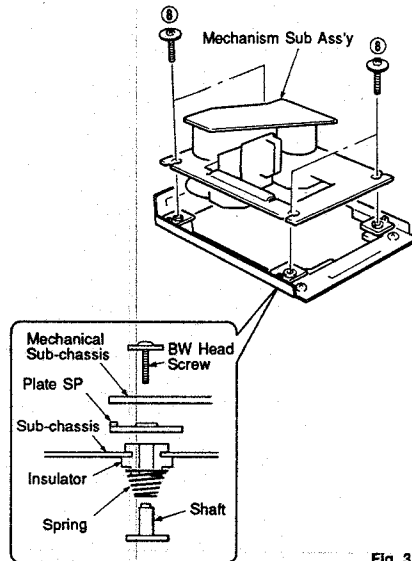

Fig. 3
- d. Remove the Mechanism Sub Ass'y by removing 4 screws (⑧) in Fig. 3.